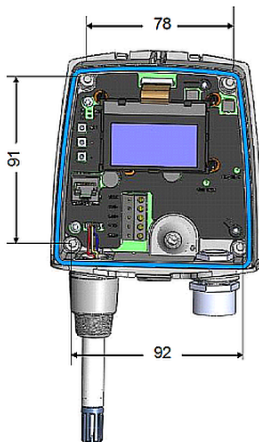

Figure 3 Wall Mounting Measurements
2. Make sure that the transmitter is correctly aligned and attach it directly to the wall with up to four screws (not included in the package). Figure 3 \(page 14\) shows the distances between attachment points.